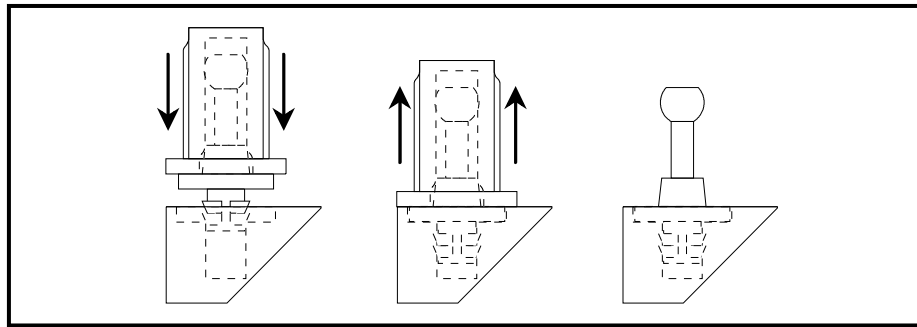

Figure 2.6 - Installing grille pin into TRANSCENDENT grille frame. Note that after installation, the grille pin flange is flush with the surface of the ...
- Place the exposed end of the grille pin in the open mounting hole. Check to insure that the grille cloth is not trapped between the pin and frame. Use a small hammer and gently tap the new grille pin in place. Then, pull the insertion tool off the new pin and verify that the pin flange is flush with the surface of the grille. Please refer to Figure 2.6.